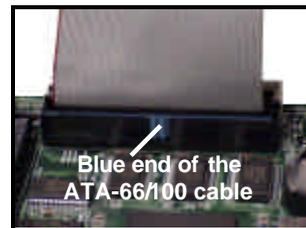

Figure I-2
Step 3: The blue end of the cable (see Figure I-2 to the right for an example) goes to the RAID connector on the motherboard (see p. 10 for location). Make sure Pin 1 of the ATA-66 cable connects to Pin 1 of the Promise RAID IDE connector (see p. 10 for location). Check all connections after completing this step, before you continue to the next part of the installation.